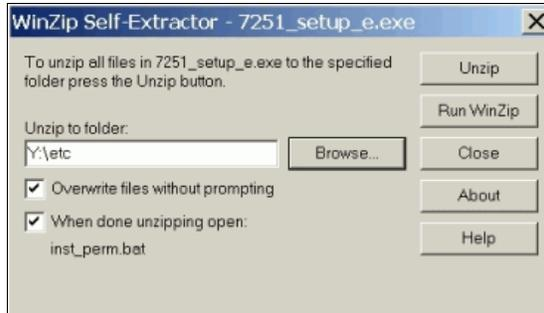

Figure A-6 Extract path
- c. In the WinZip dialog box, enter the letter of the drive to which you mapped the storage system. For example, if you chose drive Y, replace DRIVE:\ETC with the following path, as shown in Figure A-6: